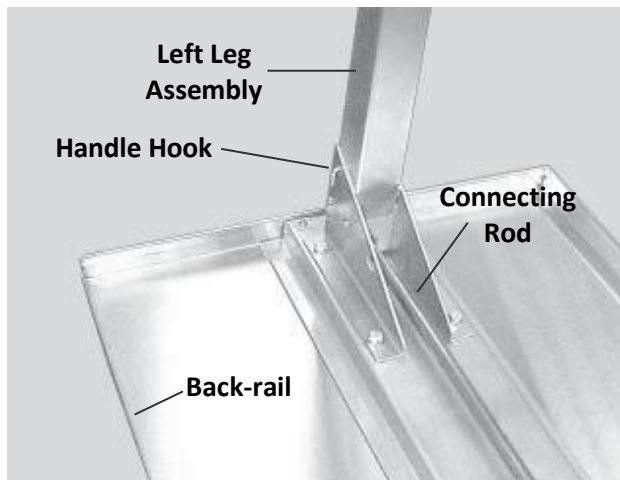

Figure 2-6
6. Connect the other end of the connecting rod to the gear shaft on the **LEFT** (not installed) leg assembly, and then fasten this leg to the bottom of the table with cap screws, flat washers, and lock-washers (Figure 2-6).